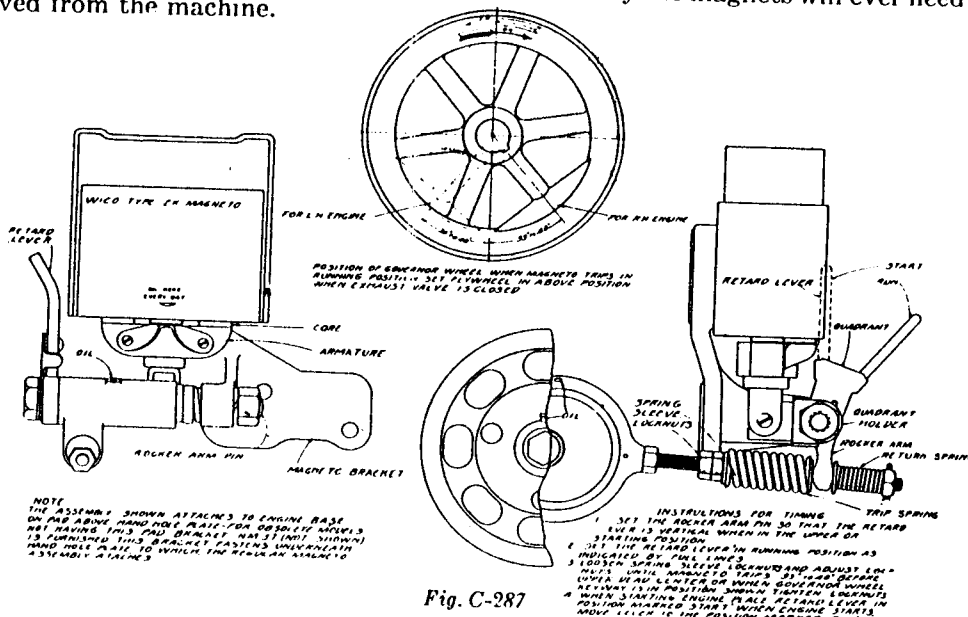

Fig. C-287
Figure C-287 shows complete details relative to assembly and timing of magneto trip.
1. First turn the fly wheel in running direction until the compression stroke or where the exhaust valve is closed, to the position as indicated in Figure C-287. This is the firing point, or position the spark takes place.
2. Place rocker arm pin or shaft so that the retard lever, as indicated in Figure C-287, is in a vertical position when in the upper or starting position. (Rocker arm shaft can be moved by loosening nut holding shaft to magneto bracket.) Next tighten shaft in position.
4. Loosen spring sleeve lock nuts and adjust nuts until the magneto trips or until the armature snaps from cores. The engine being in firing position, as indicated by fly wheel, Figure C-287, the spring sleeve lock nuts can be tightened in position.
5. When starting engine place retard lever in vertical position as marked "Start" in Figure C-287, and when engine starts move lever to the position marked "Run."